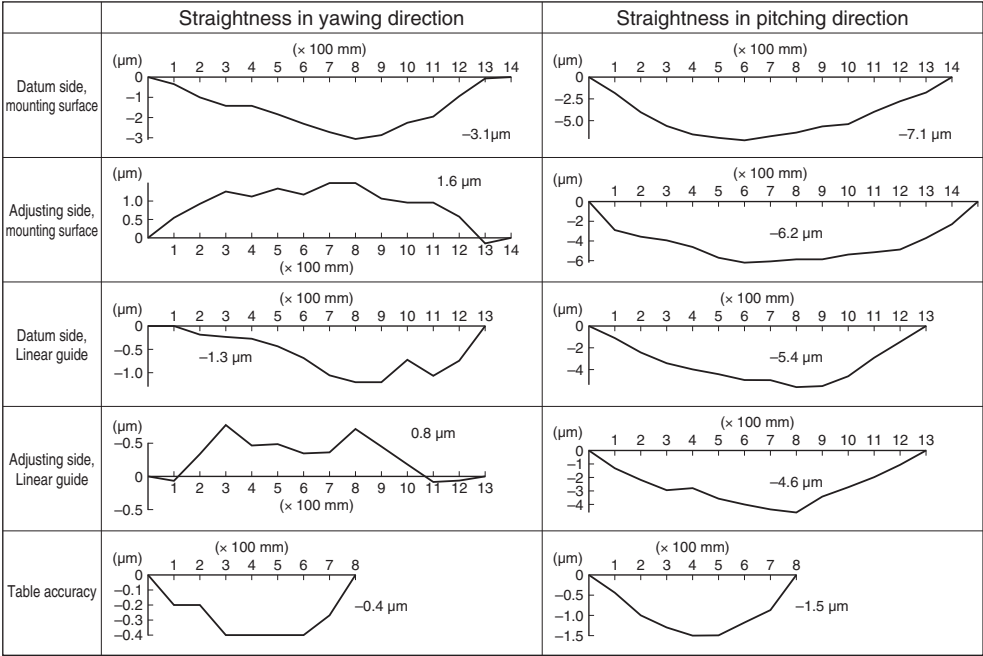

Fig. 9.9 Straightness of the table equipped with linear guide
• Fig. 9.9 shows an actually measured straightness of the table which uses NSK linear guide. In this case, the final straightness of the table is about 1/5 of the straightness of the mounting face.